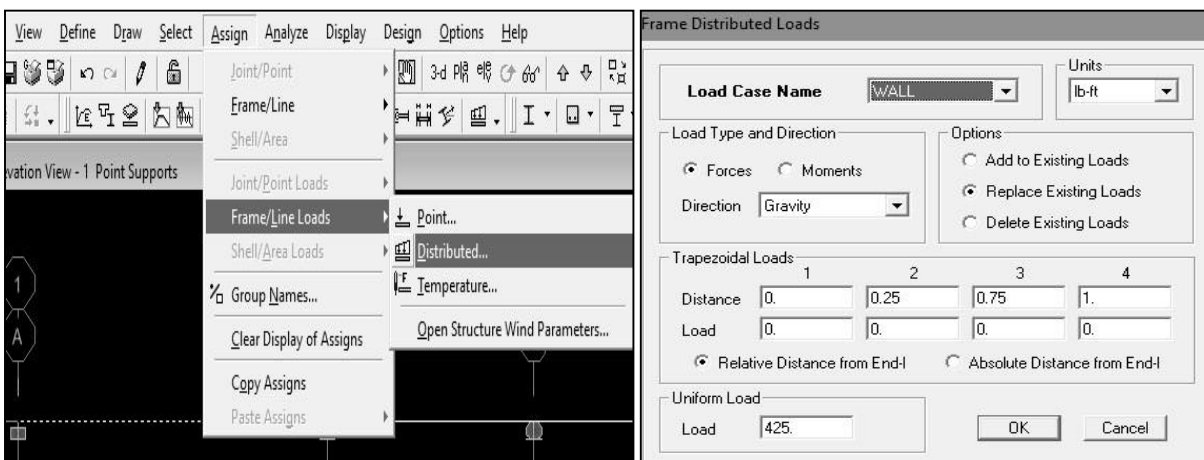

Fig . 4.21
4.2.2 **Wall Load Assign:** Select Floor Beams → Assign → Frame/Line Loads → Distributed → Load Case Name = WALL → Units = lb-ft → Direction = Local-2 → Then write the values of wall Load = 425 → OK. (Fig: 4.21, 4.22)